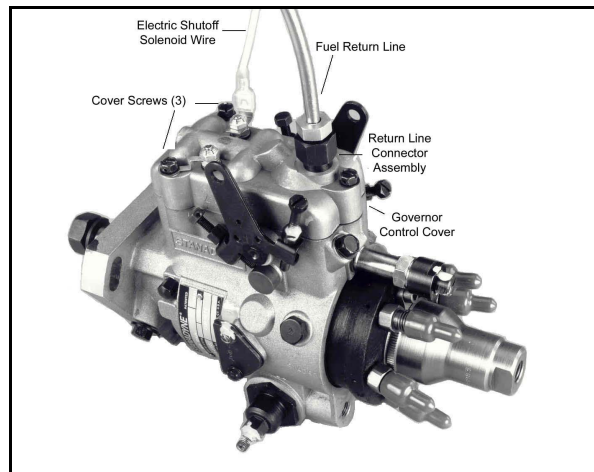

Figure 1
2. Remove the fuel return line from the pump's return line connector assembly. Use two wrenches to loosen. See Figure 1.